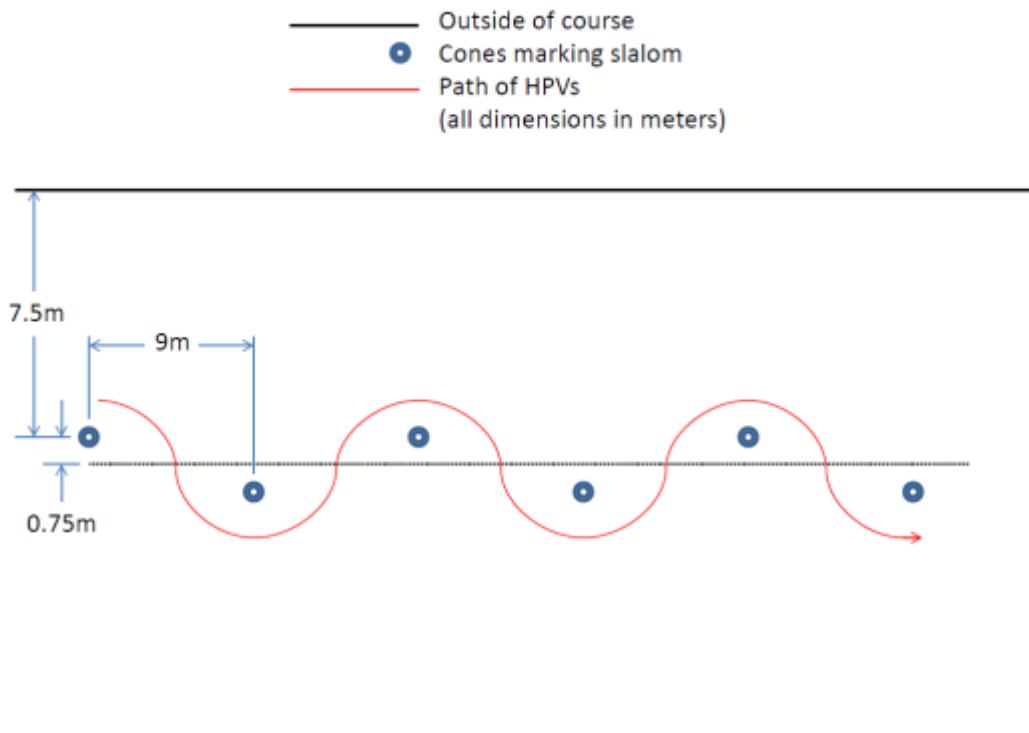

Figure 2: Slalom course (Note: actual layout subject to limitations of venue)
- 4) A slalom section consisting of a series of tight turns as shown in Figure 2. Knocking a tennis ball off of a cone constitutes failure of the obstacle.